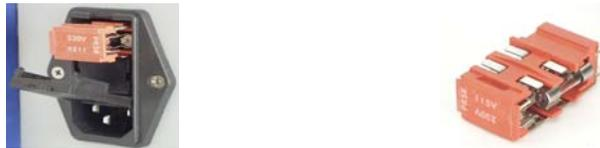

Fig. 2: Fuse location on the rear panel and in the carrier (1 of 2 fuses visible)
- 3 Pry open the door that covers the fuse carrier (see Fig. 2) and pry out the fuse carrier.